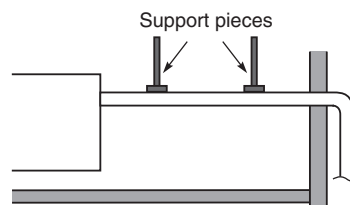

Fig. 3-13
- Do not apply force to the piping on the unit side when connecting the drain pipe. The pipe should not be allowed to hang unsupported from its connection to the unit. Fasten the pipe to a wall, frame, or other support as close to the unit as possible. (Fig. 3-13)